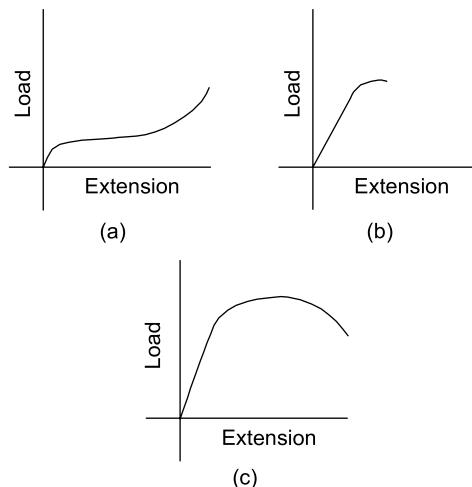

Figure 2.10
- (a) A typical load/extension curve for an elastic non-metallic material is shown in Figure 2.10(a), and an example of such a material is **polythene**.
- (b) A typical load/extension curve for a brittle material is shown in Figure 2.10(b), and an example of such a material is **cast iron**.
- (c) A typical load/extension curve for a ductile material is shown in Figure 2.10(c), and an example of such a material is **mild steel**.